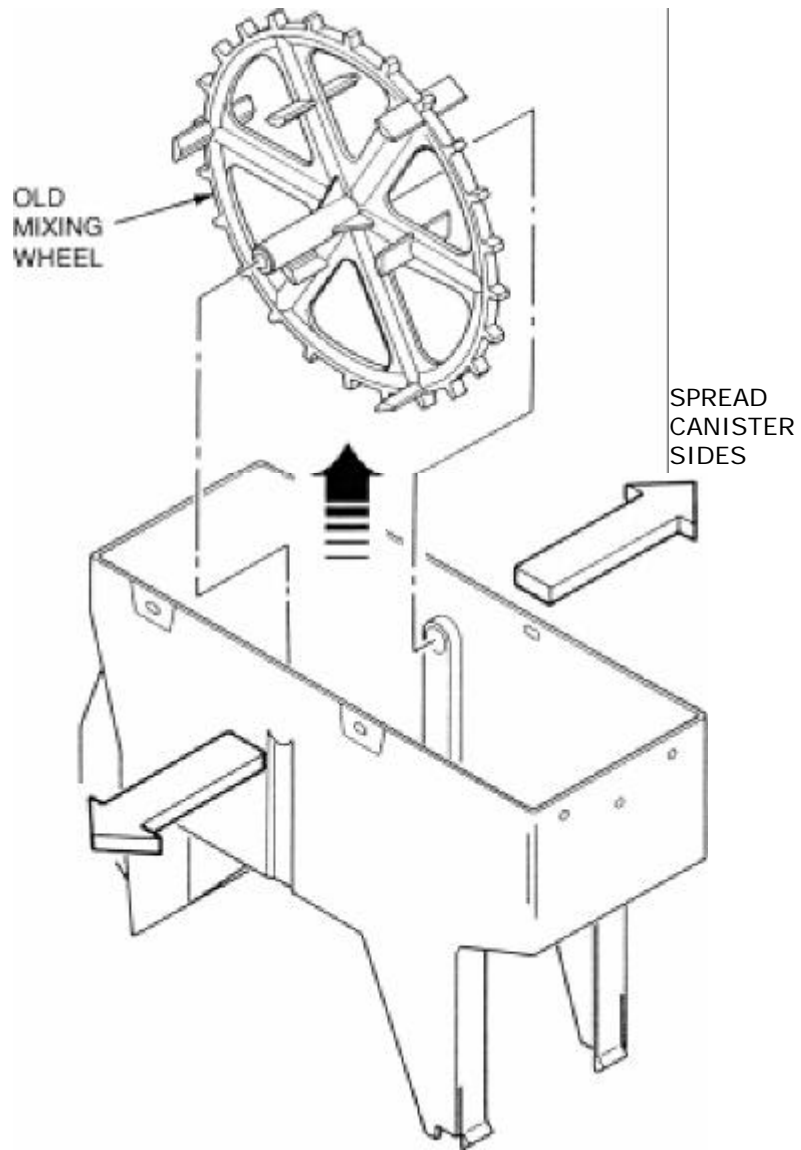

Figure 3.
4. See figure 3. Spread the canister sides and remove the old mixing wheel. Discard the mixing wheel.